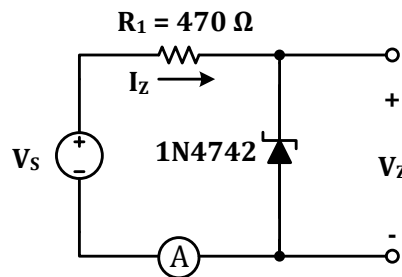

Figure 1.2
1. Connect the circuit in Figure 1.2.